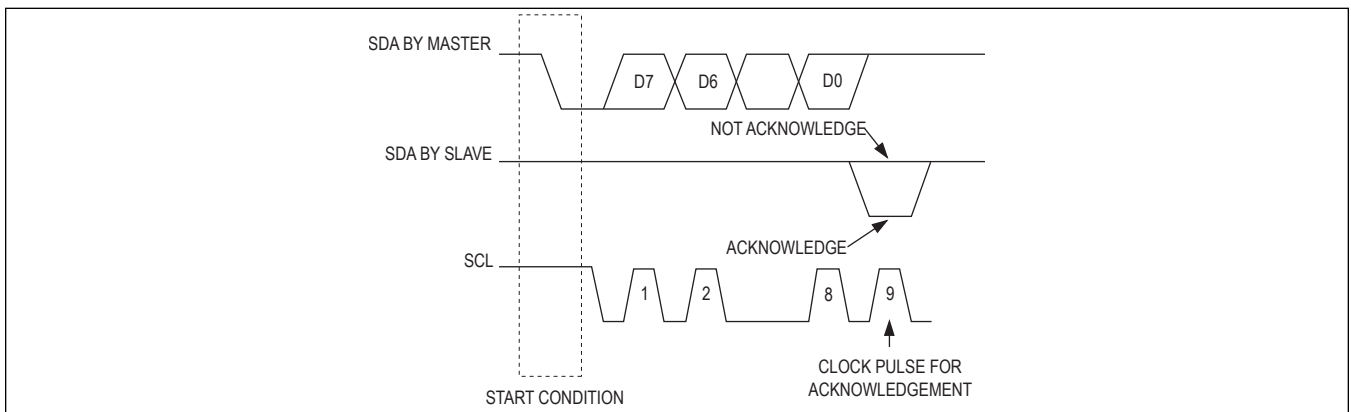

Figure 23. I²C Acknowledge
The acknowledge bit is used by the recipient to handshake the receipt of each byte of data (Figure 23). After data transfer, the master generates the acknowledge clock pulse and the recipient pulls down the SDA line during this acknowledge clock pulse so that the SDA line stays low during the high duration of the clock pulse. When the master transmits the data to the IC, it releases the SDA line and the IC takes the control of the SDA line and generates the acknowledge bit. When SDA remains high during this ninth clock pulse, this is defined as the not acknowledge signal. The master can then generate either a STOP (P) condition to abort the transfer, or a REPEATED START (Sr) condition to start a new transfer.